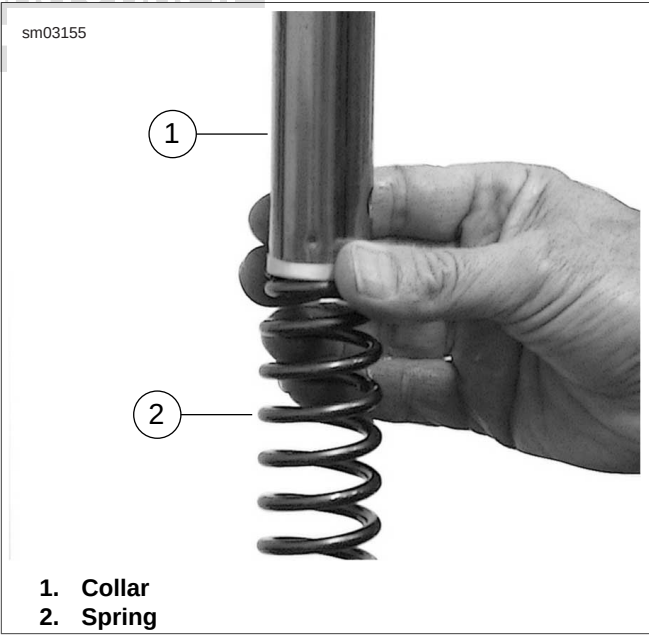

Figure 2-189. Collar and Spring Assembly
16. See Figure 2-189. Fully extend fork and install spring in fork tube (with tightly wound end at bottom), washer and collar.